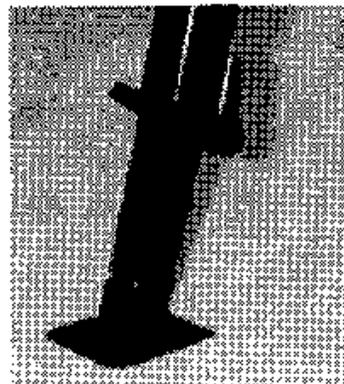

Fig. 4
4. Now release the four spring loaded, self-storing stabilizer jacks located on each corner of the unit. Do not release the slideout jacks at this time. The base of this jack is welded to the frame. Grip jack and push toward center of camper approximately 5/8". It will require a fair amount of effort to release and swing down as in Fig. 4.
10. Release each of the two slideout stabilizer jacks by gripping jack and pushing toward center of camper approximately 5/8". Again it will require a fair amount of effort to release and swing down as in fig. 4. Extend jack foot unit is approximately one inch from the ground.
11. Pull jacks downward 5/8" and swing toward center of camper until spring-loaded catch slips into slot. Fig. 4
13. Loosen any tension on the four stabilizer jacks located in each corner of the unit by pressing adjustment tab on jack downward. Using both hands, slide telescoping foot upwards fully. Pull jacks downward 5/8" and swing towards center of camper until spring-loaded catch slips into slot. Fig. 4